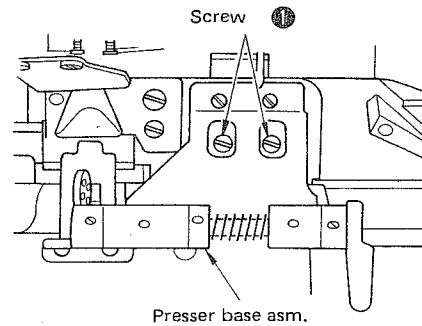

Fig. IV-12-2
Remove the two screws ①. The presser base asm. can be removed while still assembled. Then adjust the looper and the bobbin thread cam using a hexagonal wrench. (See Fig. IV-12-2)